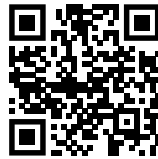

Fig. 90
- ▶ Open Liebherr SmartMonitoring Dashboard. (see Fig. 90)